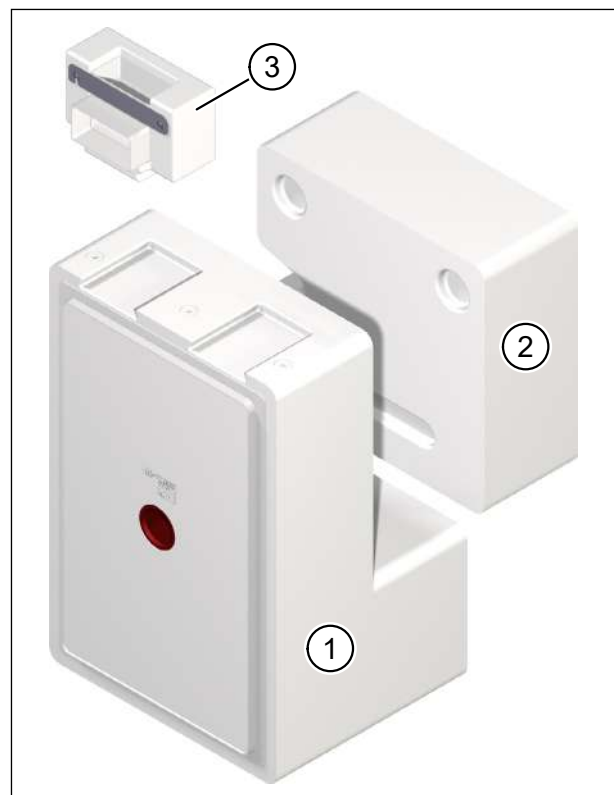

Fig. 1: Installation kit M-WRG-II M/MB with optional filler piece M-WRG-II M/Fü and ductwork connection adapter M-WRG-II AD-UP
This manual describes how to flush-mount the M-WRG-II M/MB installation kit (item 1 in Fig. 1) in solid walls. In new builds, if a complete wall aperture is planned for the installation kit or if a complete wall breakthrough is planned for a retrofit, the optional filler piece M-WRG-II M/Fü (item 2 in Fig. 1) can be used to pack out the wall. Flush-mount flat ductwork or flexible pipe systems can be connected using the ductwork connection adapter M-WRG-II AD-UP (item 3 in Fig. 1) which is available as an option. The ductwork connection adapter can be used on the extract air side, supply air side or on both sides of the installation kit as required. The combination of installation kit M-WRG-II M/MB and ductwork connection adapter M-WRG-II AD-UP is suitable for applications in which the wall is not thick enough for the integrated into wall installation kit M-WRG-II M-U².